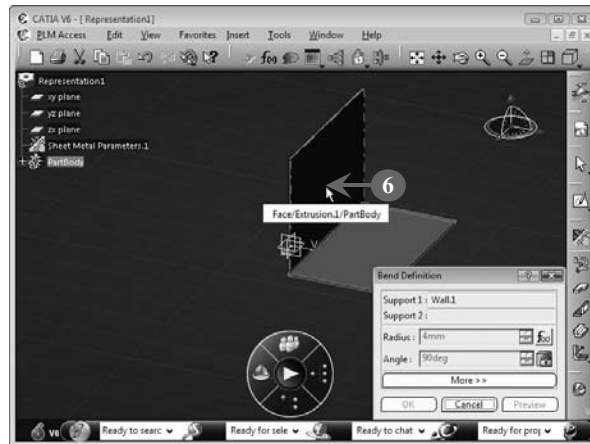

FIGURE 6.43
The base wall is added to the **Bend Definition** dialog box (**Figure 6.43**).
6. Select another wall, as shown in **Figure 6.43**: